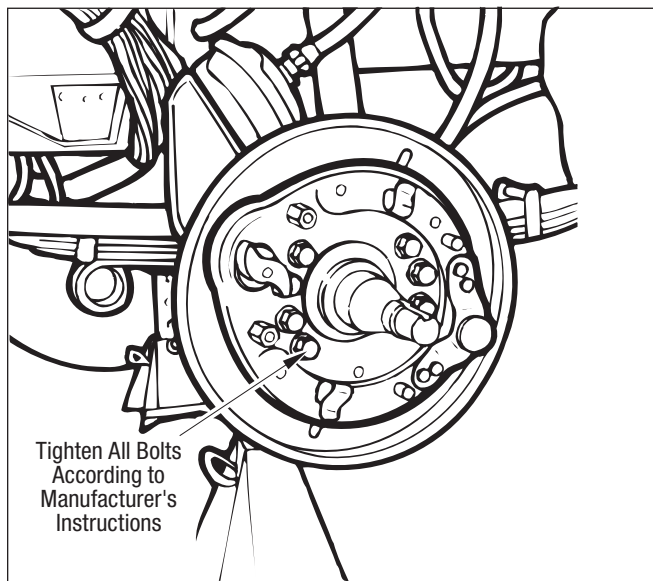

Figure 46 – Installing Spider Mounting Hardware
4. Sequentially torque the nuts according to the manufacturer's specifications, Refer to Figure 46. **T**